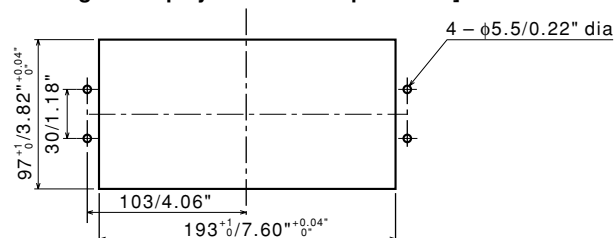

Fig. 2
- When you mount the display unit on the panel, cut out an opening of the dimensions shown. (See Fig. 2.)